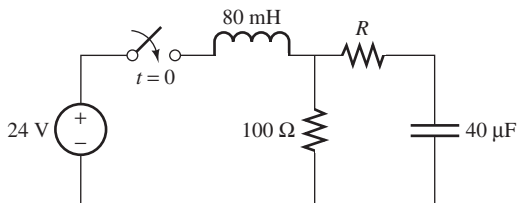

FIGURE P5.46 Circuit for Problem 5.46.
- 5.46 (H)* The switch in Figure P5.46 closes at $t = 0$. Determine whether $v_C(t)$ is underdamped, critically damped, or overdamped if R is 80Ω .